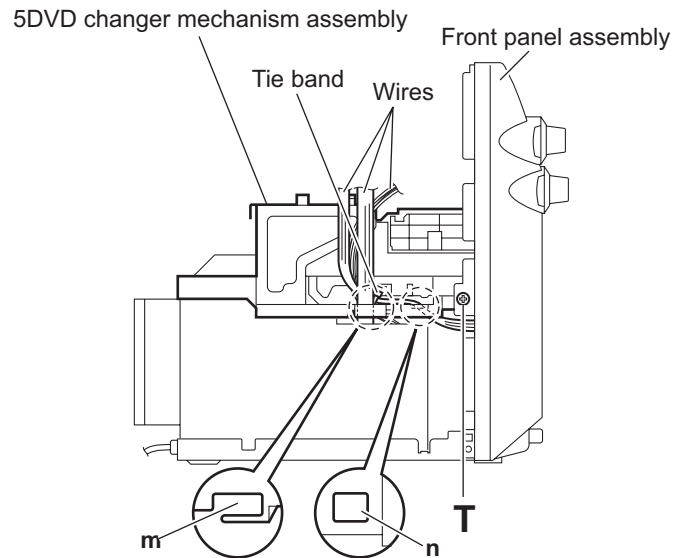

Fig.22
- (2) From the left side of the main body, remove the tie band bundling the wire and parallel wires. (See Fig.22.)
After reassembling, bundle the wire and parallel wires with the new tie band as before. (See Fig.22.)
When attaching the 5CD changer mechanism assembly, pass the wires through the sections (**m**, **n**) of the plastic chassis. (See Fig.22.)
When attaching the 5DVD changer mechanism assembly, pass the wires through the sections (**m**, **n**) of the 5DVD changer mechanism assembly. (See Fig.22.)